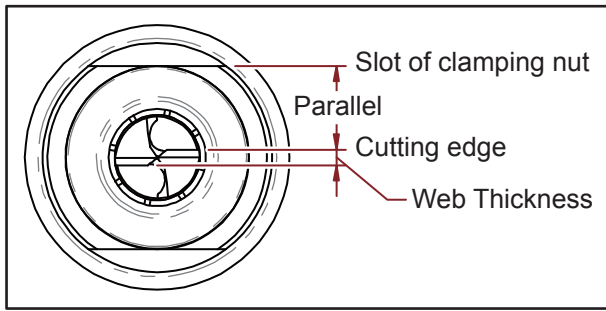
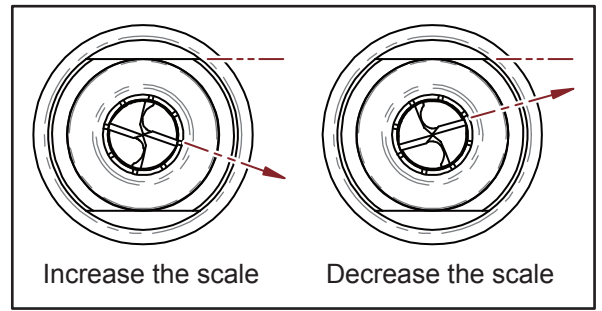

Fig. 7-4
Fig. 7-5
- ① Insert the Chuck set into the Positioning shelf, align slot of the clamping nut with the pin on the Positioning shelf, then connect it closely without any interval and turn it clockwise to the end.
- ② Push the drill to the end and turn it by clockwise until it is blocked by the Position block.
- ③ Turn the collet holder clockwise and tighten lightly the Chuck set.
- ④ Rotate the Chuck set counterclockwise and take it out gently.
- ※ After taking the chuck set out, make sure the cutting edge of the drill is parallel with the slot of clamping nut (Fig. 7-4), if it is not parallel, please re-adjust it. (Fig. 7-5)
- ✘ Always keep the parallelism before starting the grinding procedure. (Fig. 7-4)